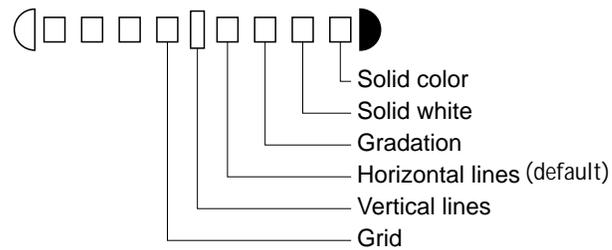

Figure 2-4 Density gauge LEDs for test patterns
2. Press the + and - keys to select a test pattern. See Figure 2-4 below for the correspondence between the density gauge LEDs and the test patterns available.